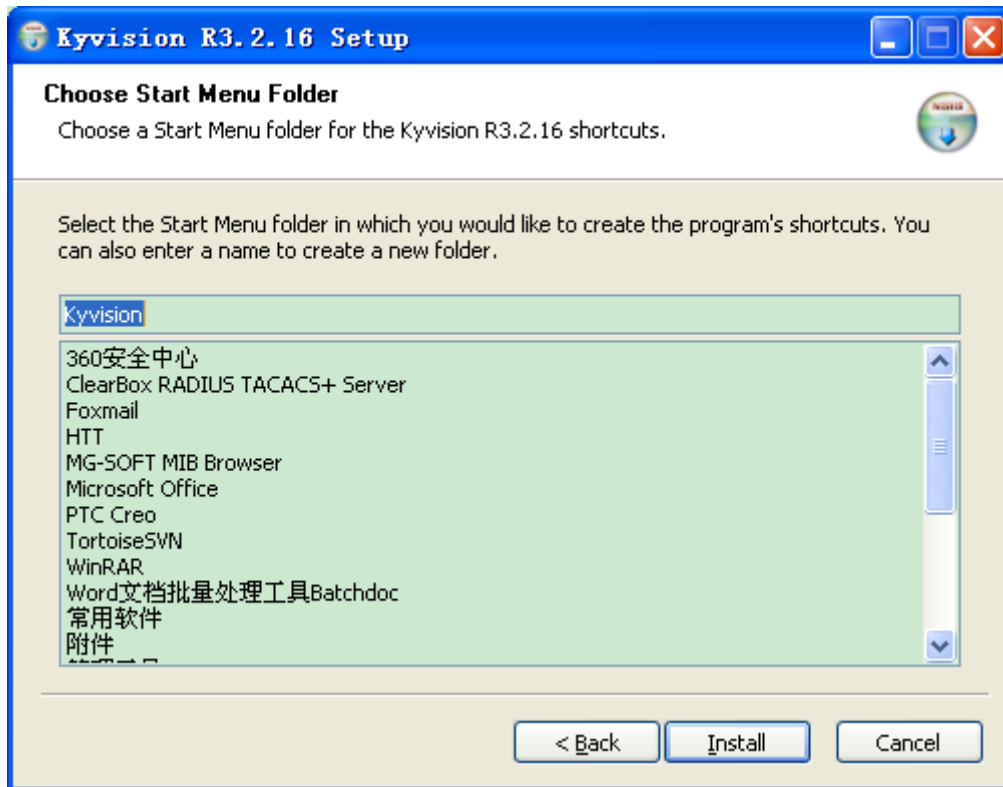

Figure 7 Selecting a Start Menu Folder
6. Select a Start Menu folder. The default folder is Kyvision. You can enter a name in the text box to create a folder. Click <Install>, as shown in Figure 7.